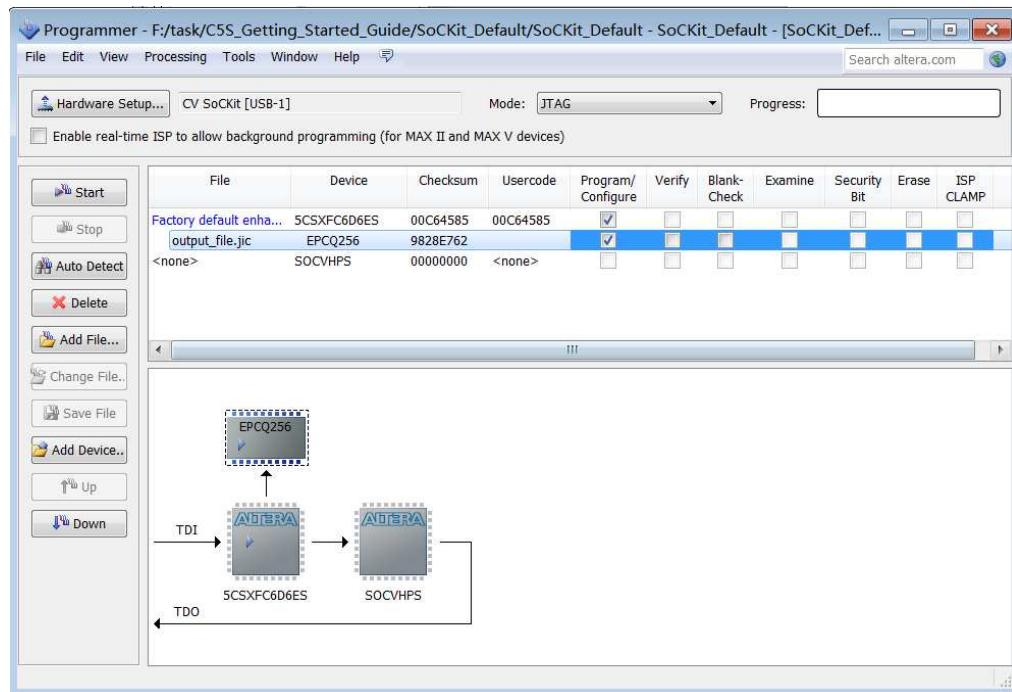

Figure 7-8. Quartus II programmer window with one JIC file
2. Program the serial configuration device by checking the corresponding **Program/Configure** box, a factory default SFL image will be loaded (See **Figure 7-8**).